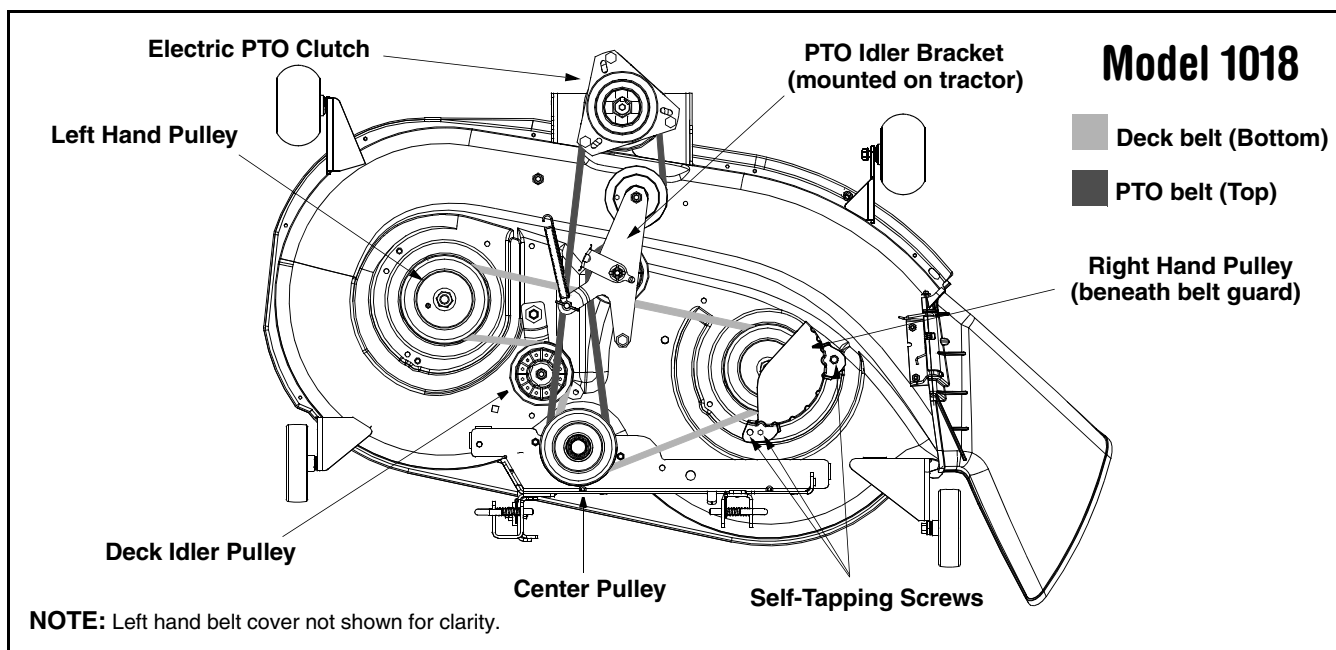
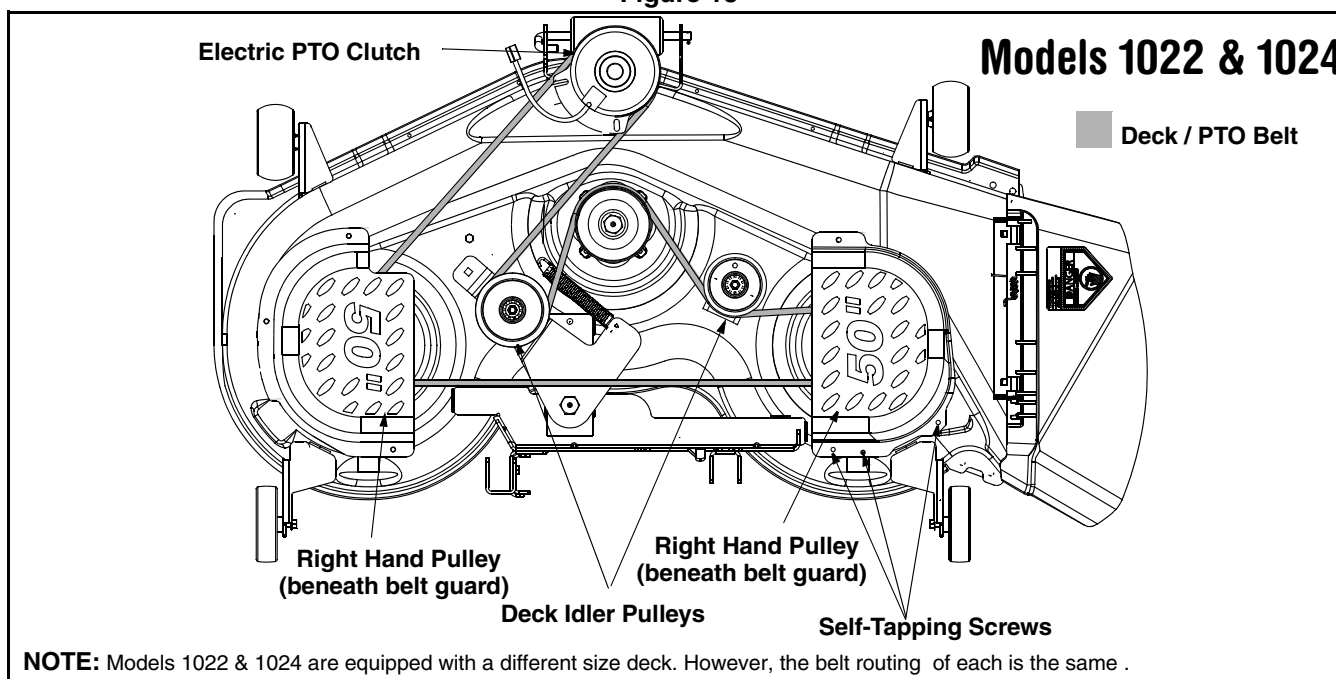

Figure 18
Figure 19
- Remove the PTO belt from around the tractor's electric PTO clutch. Refer to Figure 18 or Figure 19.
- Remove the belt guards by removing the self-tapping screws that fasten them to the deck. See Figure 18 or Figure 19.
- Route the new belts as shown in Figure 18 or Figure 19.